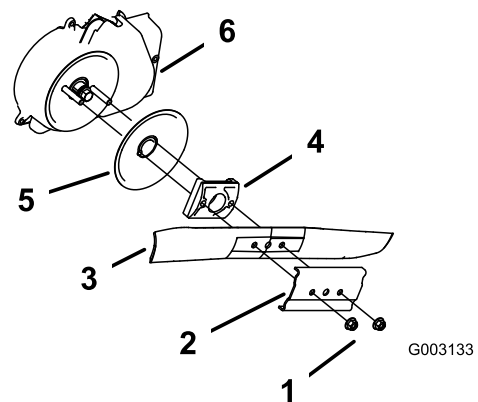

Figure 45
3. Remove the 2 blade nuts and the stiffener (Figure 45).
4. Remove the blade (Figure 45).
5. Remove the blade driver and disk (Figure 45).
6. Remove the blade brake clutch shield (Figure 45).
10. Install the blade and the stiffener that you previously removed (Figure 45).